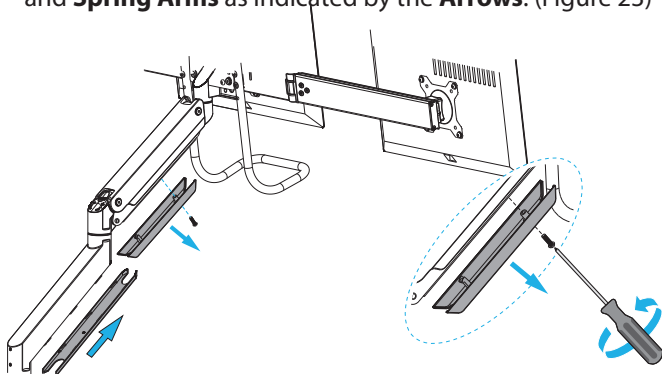

Figure 23
1. Use a **Phillips Head Screwdriver** to **Remove** the **Screw** on the **Cable Management Cover** under the **Spring Arm**. Remove the **Cable Management Covers** under the **Swivel** and **Spring Arms** as indicated by the **Arrows**. (Figure 23)